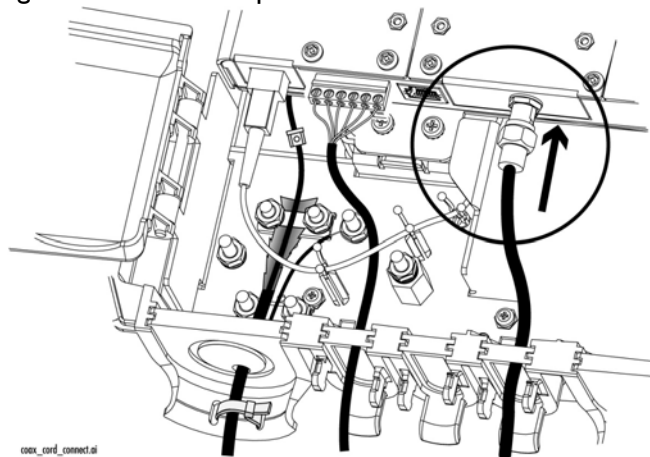

Figure 10. Connecting to coax cable
3. Connect the coax cable to the HPNA card, as shown in Figure 10.